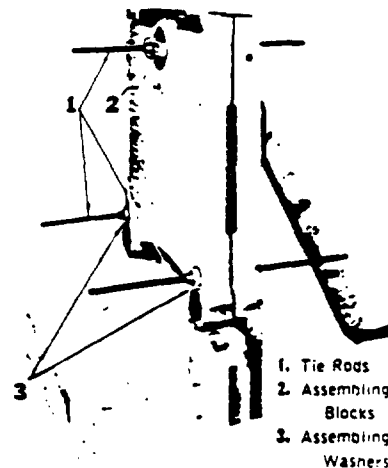

FIG. 2—Assembling Sections
5. For 6 to 11 Section Boilers—Insert one tie rod through each bolt hole above lower nipple ports and one tie rod through upper nipple port. Place assembling block on upper rod and assembling washers on lower rods as shown and place nuts and washers on all rods. See Fig. 2.